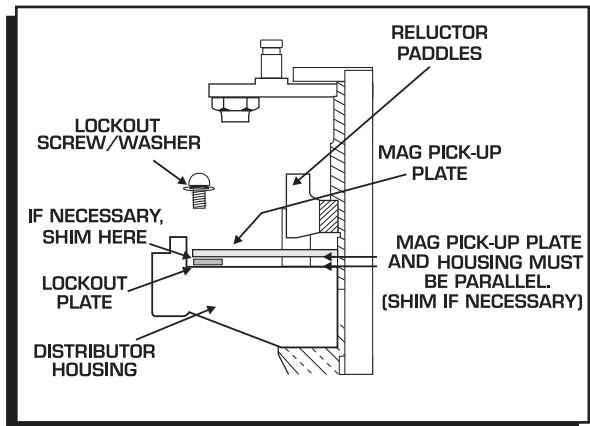

Figure 9 Checking Installation of the Lockout Plate.
5. Install the supplied screw and washer through the Lockout and tighten. It is important to make sure the pickup plate is parallel with the housing of the distributor (Figure 9). If it is cocked or slanted, the paddles of the reluctor may contact the pickup. Check the clearance by rotating the distributor shaft. If necessary, use the supplied shims under the Lockout hold-down to correctly position the pickup plate.